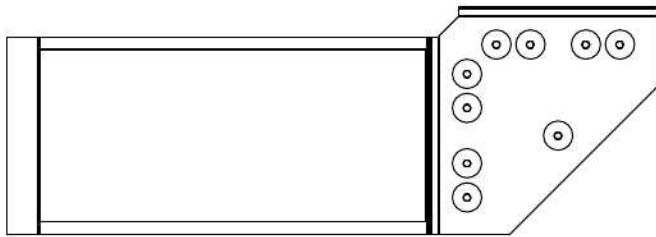

Figure 21. Alignment of Elbow Stack with Busway
9.3.4 Verify the elbow stack fitting is installed square with the busway by viewing the elbow stack from above or below (Figure 21) and using the sides of the elbow stack as a reference to ensure it is aligned with the busway. Loosely install the elbow side covers to the busway to verify alignment. The mounting holes in the elbow stack side covers should line up with the threaded holes in the joint supports when the busway is properly aligned with the elbow stack fitting.